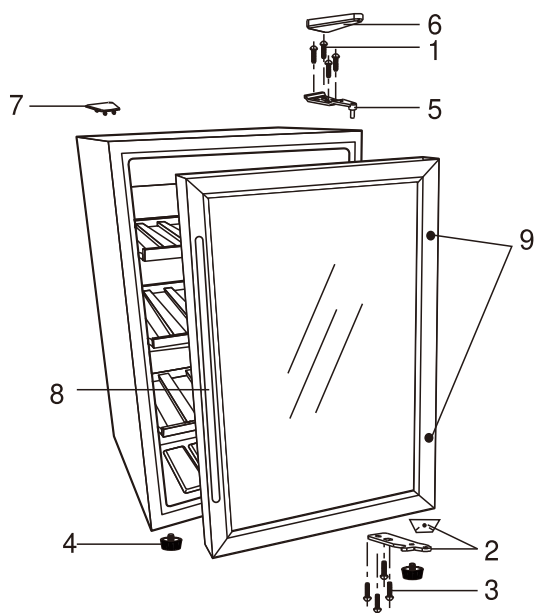

Fig. 3
- Open the door and slightly pull back the door gasket behind to reveal the two (2) holes and screws that secure the handle to the door.
- Using a screwdriver (not included), remove the handle (Fig. 3: No. 8) by rotating the two (2) screws counterclockwise. Remove the screws and washers and place in a secure location. Place handle on a padded surface.
- On the opposite side of the door, you will notice two (2) filler screws (Fig. 3: No. 9) covering the holes where the handle is to be installed. Using a flathead screwdriver (not included) remove the two (2) filler screws (Fig. 3: No. 9) by rotating clockwise from the inside of the door
- Note: Do not attempt to remove these filler screws (Fig. 3: No. 9) from the exterior of the door as you cause damage to the stainless steel door frame.
- Mount the filler screws (Fig. 3: No. 9) over the holes on the opposite side of the door.
- Install the handle (Fig. 3: No. 8) on the desired side. (See “Installing the handle” section on page 6)